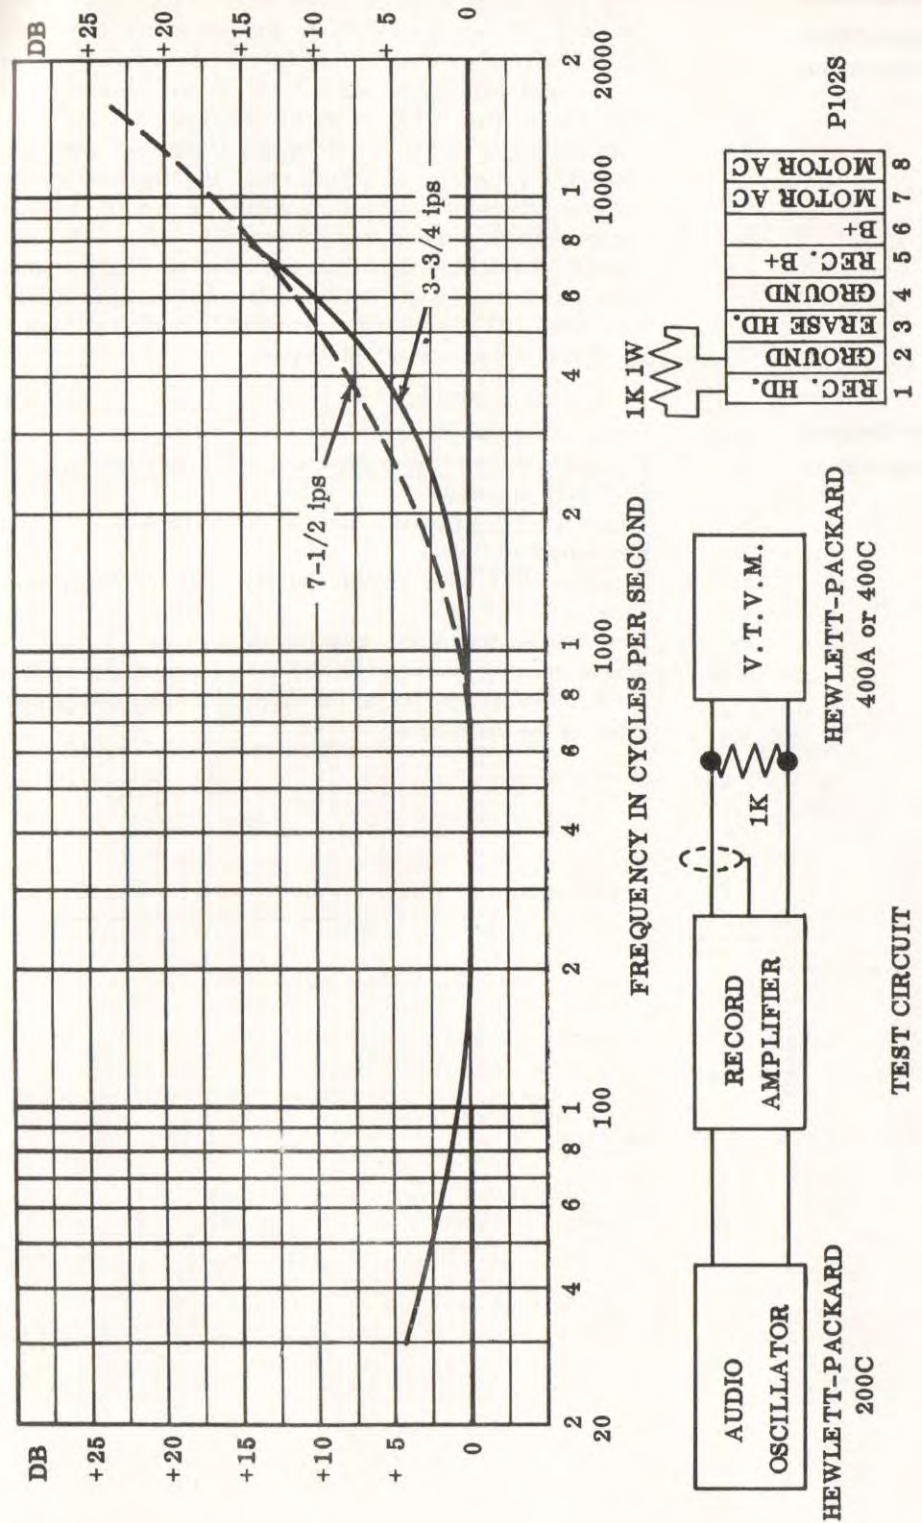

Fig. 5-2. Record Amplifier Response
Step 2: The bench procedure for record equalization given in Step 3 below is independent of the reproduce amplifier and is therefore preferred to the procedure outlined in Step 1 above. The record response curve and test setup are shown in Fig. 5.2.
tion. Connect an audio oscillator to the LINE INPUT connector J102S, set it to 250 cps and adjust the LINE REC LEVEL control for a vtm reading of approximately .4 volts. Increase the oscillator setting to 8000 cps and adjust the REC. EQUAL capacitor C107 to set the response on curve at this point as shown in Fig. 5.2. Now sweep the oscillator slowly through the specified frequency range and check to see that response follows the curve throughout. Be sure the oscillator output remains constant over the range.